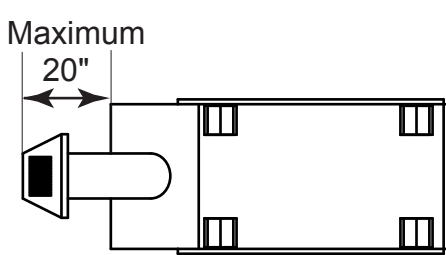
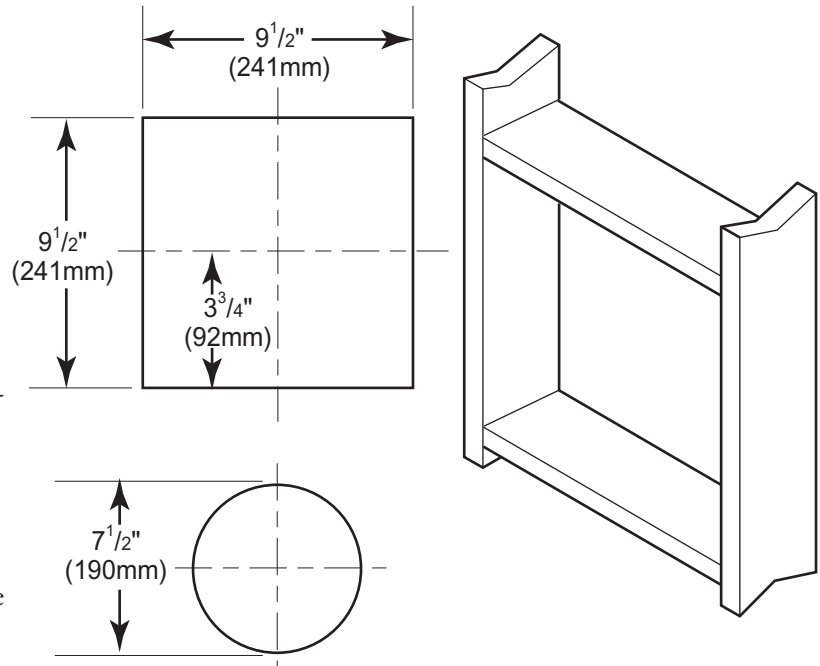

Figure 11 - Rear Vent Application, Maximum Horizontal Distance
Figure 12 - Vent Opening Requirements
- The maximum horizontal distance between the rear of the appliance and the outside of termination is 20" (508 mm). See *Figure 11*.
1. Locate and cut the vent opening in the wall. For combustible walls first frame in opening. See *Figure 11*.
Combustible Walls: Cut a 9½" H x 9½" W (241mm x 241mm) hole through the exterior wall and frame as shown. See *Figure 12*.
3. Attach vent pipe assembly to the fireplace. Set fireplace in front of its permanent location to insure minimum clearances. Mark the wall for a 9½"H x 9½"W (241mm x 241mm) square hole (for noncombustible material such as masonry block or concrete, a 7½" [190mm] diameter hole is acceptable). See *Figure 11*. The center of the hole should line up with the center line of the horizontal rigid vent pipe end. Be sure to allow for minimum rise. Cut a 9½"x9½" (241mm X 241mm) square hole through combustible exterior wall (7½" [190mm] diameter hole if noncombustible). Frame as necessary. Allow ¼" minimum rise per foot. See *Figure 12*.
1. Establish vent hole through the wall. *See Figure 12, page 17.*